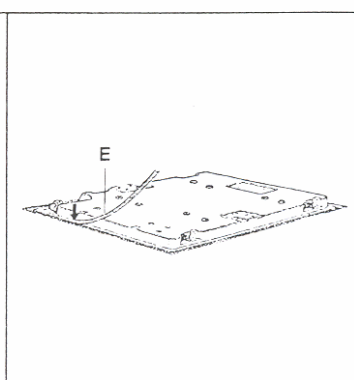

FIG. 10
- Overturn the hot plate and correctly position seal "E" (fig. 10) under the edge of the hot plate itself, so that the outer side of the seal perfectly matches the outer edge of the hot plate. The ends of the strips must fit together without overlapping.